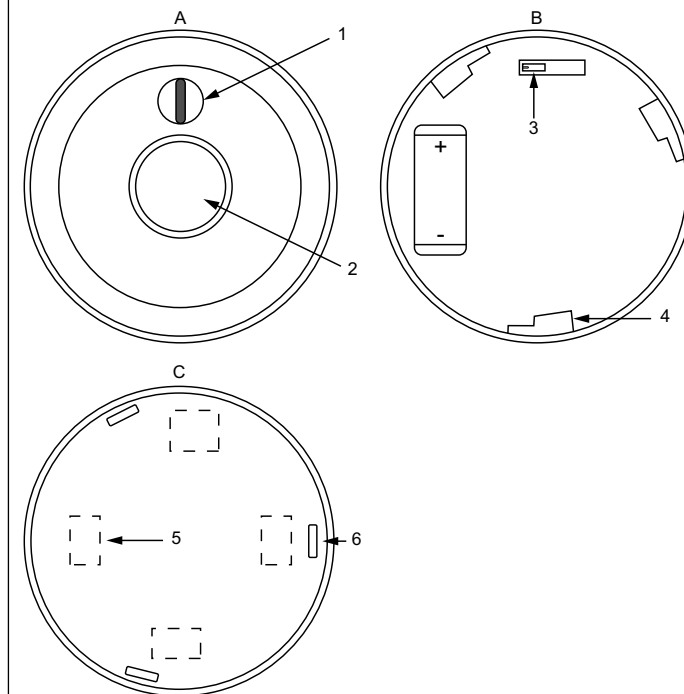

Figure 2 . A = Main body, front, B = Main body, back, C = Back cover
1. Break through the knockouts on the inside of the back cover. See *Figure 2*.